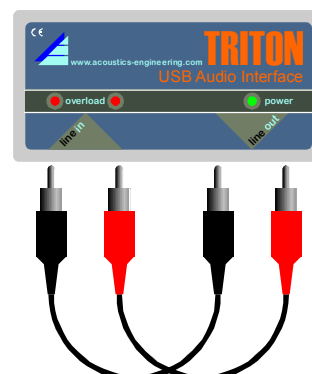

Figure 2. Loopback configuration.
2. Because system measurements are often performed by generating an excitation signal at the output, while recording the system response at the input, measurement system quality parameters depend on the Triton input + output chain. Therefore these parameters are given for the loopback configuration depicted in figure 2.